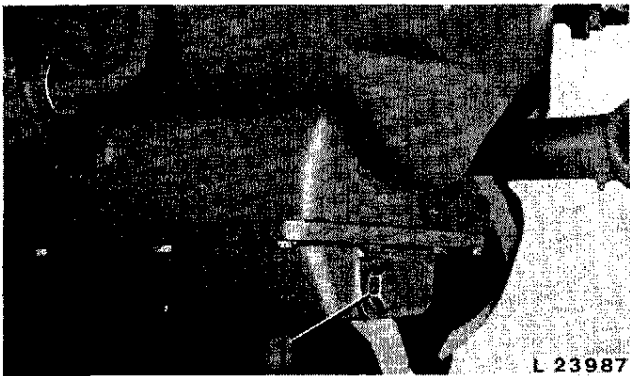

Fig. 9 -- Clutch Housing Drain Plug (on Tractors with MFWD)
3. Remove drain plugs 4 and 5 (fig. 9).
5. Remove plug 1 (fig. 9), pull out intake screen and wash in fuel.